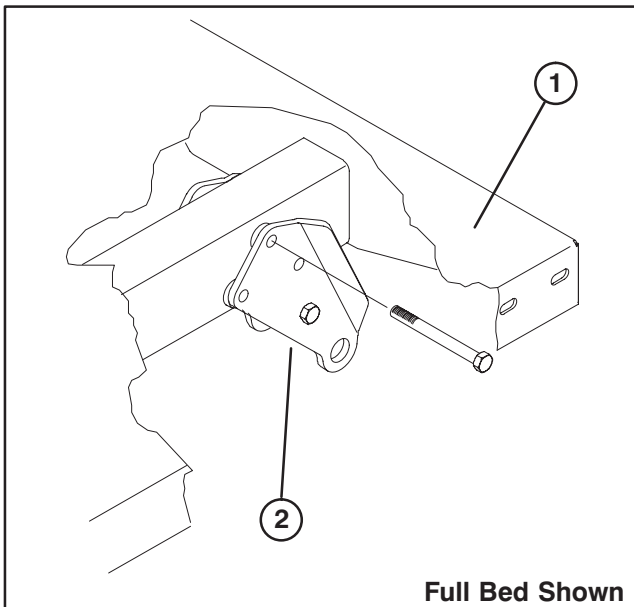
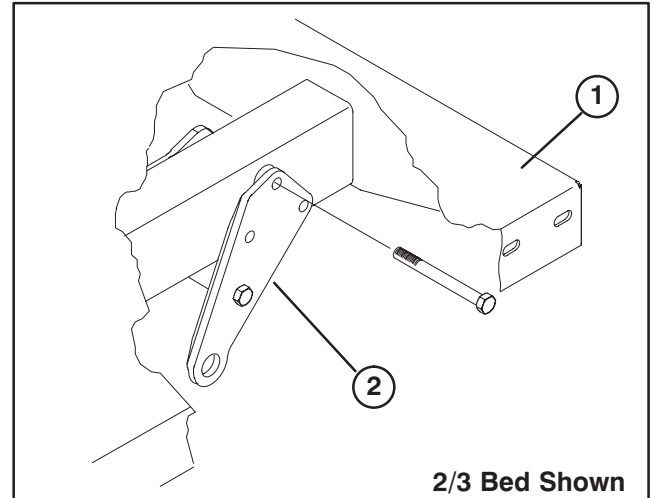

Figure 2
Figure 3
2. Loosely mount each set of rear pivot plates to right and left bed frame channels with (3) 3/8-16 x 3-3/4" lg. capscrews and locknuts. Position brackets on full bed as shown in figure 2, and for 2/3 bed as shown in figure 3.
NOTE: On a Workman 3000 & 4000 with a full flat bed, assure rear pivot plates are bolted to the bed frame/channel so that lower end angles to the rear (Fig. 2).